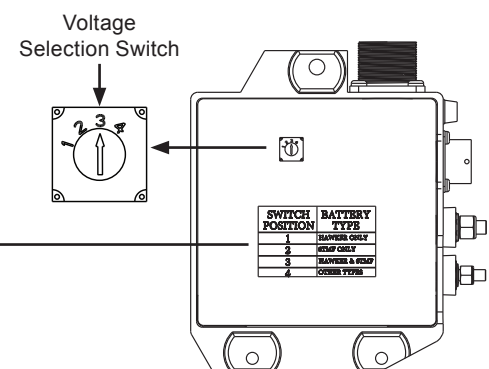

Figure 5: Smart Regulator External Features
- Adjustable voltage set points. See Table 1 and Figure 5.
- J1939 communication via 10 pin connector. See Figure 5.
- Charging system status LED indicator. See Figure 5 on page 3 and Table 2 on page 4.